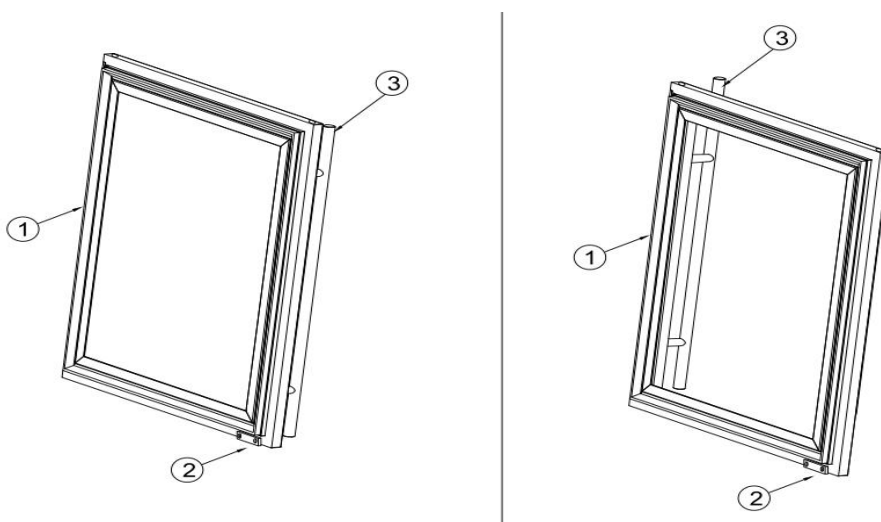

Fig:1
- ①Upper hinge ②Hinge shaft ③Hinge buckle ④Upper hinge ⑤Lower hinge
⑥Glass door
1. As shown in Figure 1, use a flat-blade screwdriver to open the upper hinge buckle ③ to see the hinge shaft ②, and then use a flat-blade screwdriver to pry the hinge shaft ② and take it out. Then unscrew the lower hinge in the same way.